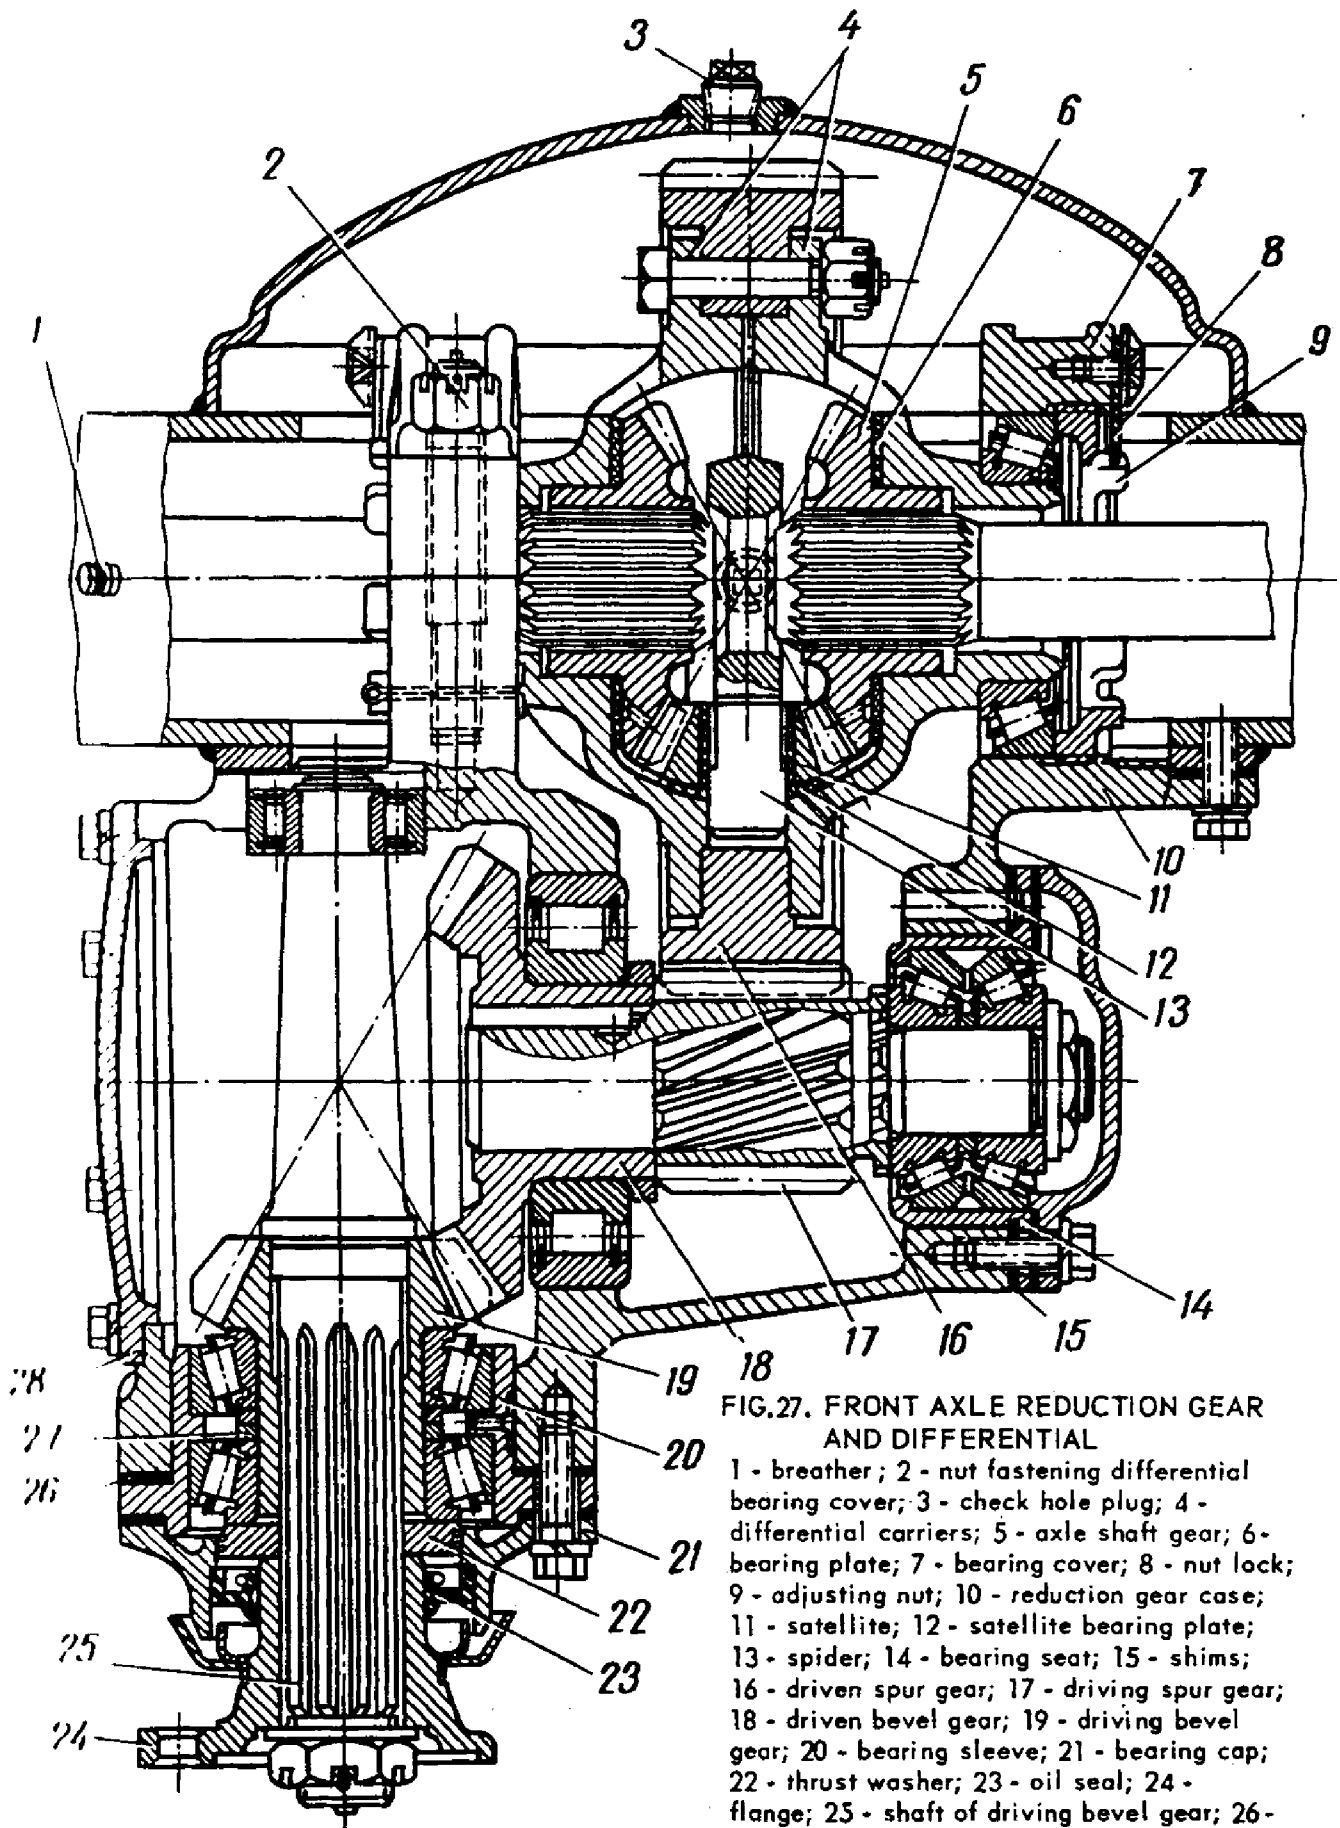

FIG.27. FRONT AXLE REDUCTION GEAR AND DIFFERENTIAL
22. Check and, if needed, adjust the tightness of the bearings carrying bevel gears 18 (Fig.27) and 19 of the axle drives of the driving axles used on the 3M1-131 truck.